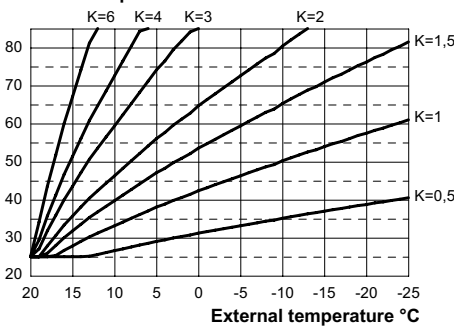
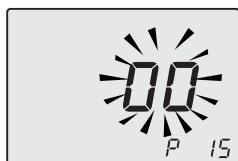

Fig. 7.16
Fig. 7.20
If the boiler is **EQUIPPED** with the remote control (optional) refer to Fig. 7.16.
sary to set this parameter based on the efficiency of the heating plant in order to optimise the flow temperature (Fig. 7.16).
E.g. In order to have a flow temperature at the heating plant of 60°C with an external temperature of -5°C, set a K at 1.5 (sectioned line in Fig. 7.16).
- Using keys 15 or 16 it is possible to change the value of parameter 15 from a minimum of **01** to a maximum of **60** based on the selected bend of the K coefficient in Fig. 7.16 (the value read on the display corresponds to K coefficients decimal values). The writing **P15 - SEt** alternates on the display (Fig. 7.20).